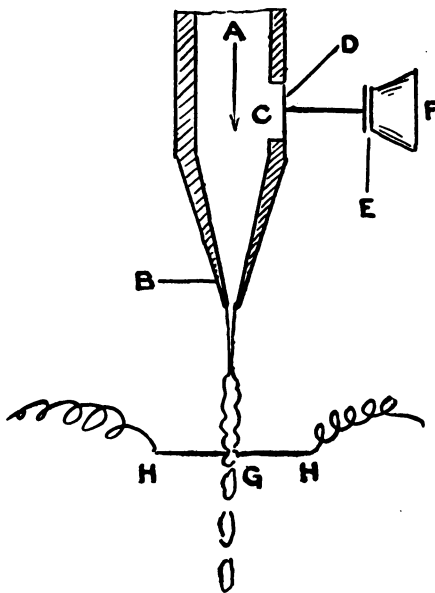

Fig. 5
A section of a Majorana transmitter is shown in Fig. 5. It consists of a tube or receptacle (A) in which water or some other liquid flows downward, as indicated by the arrow, through the narrow tube B, from the extremity of which it issues in a tiny jet. This tube is of unyielding and inelastic material, but at the spot C there is an opening covered with a thin, elastic diaphragm.